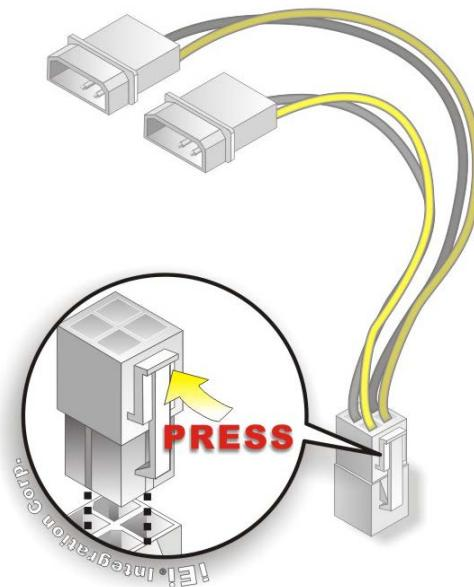

Figure 4-18: Power Cable to Motherboard Connection
Step 2: Connect the power cable to the motherboard. Connect the 4-pin (2x2) Molex type power cable connector to the power connector on the motherboard. See Figure 4-18.